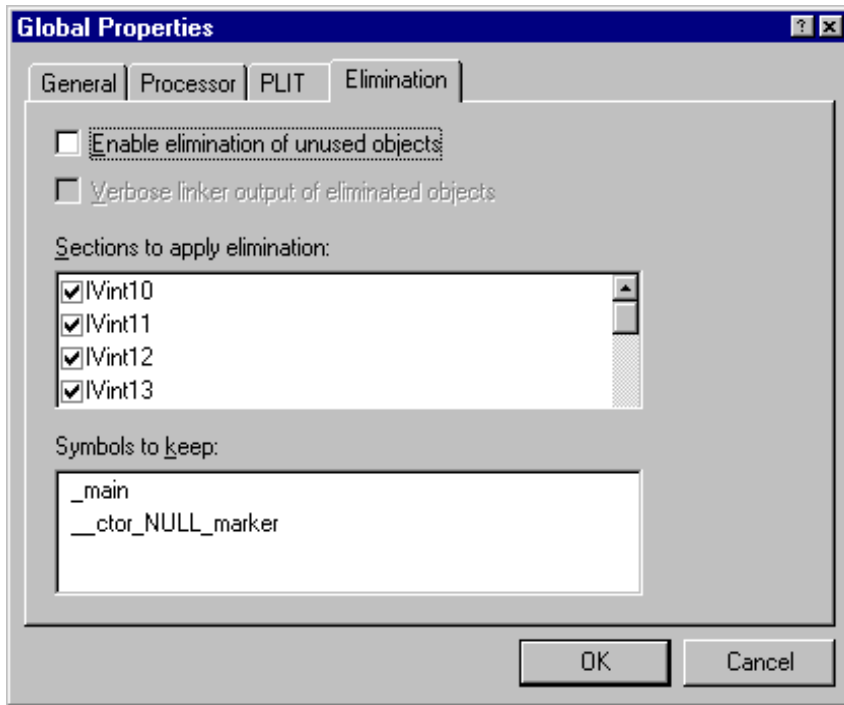

Figure 4-45. Elimination Page of the Global Properties Dialog Box
3. Click the **Elimination** tab to add or remove a symbol (Figure 4-45)